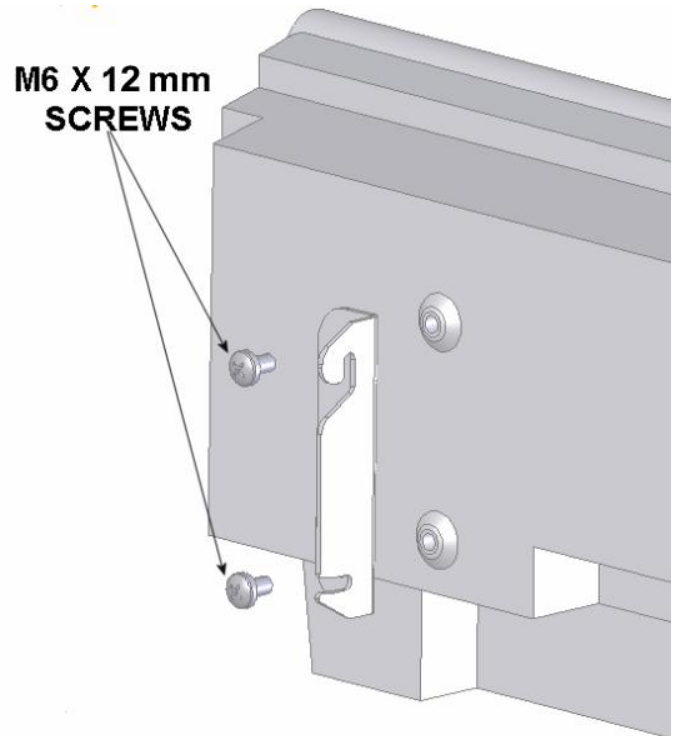

Figure 16. Attach Speaker Brackets to Speaker
1. Attach the speaker bracket (40) onto the left side of the speaker (not supplied) using the two M6 x 12mm screws (30) See Figure 16.
2. Attach the speaker bracket (50) onto the right side of the speaker (not supplied) using the two M6 x 12mm screws (30) See Figure 16.